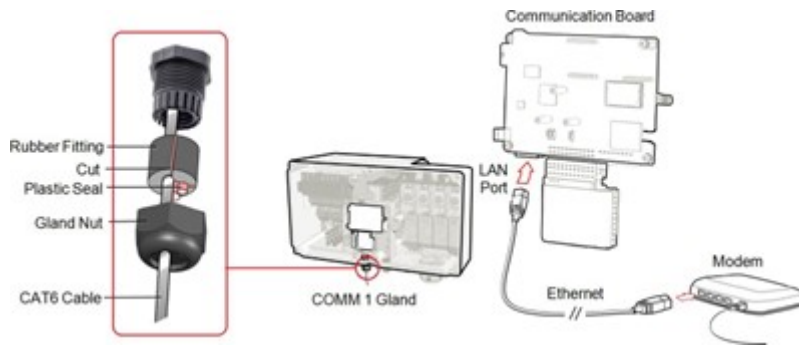

Figure 33: Inserting the Ethernet (CAT6) cable
- Connect the Ethernet connector to the RJ45 port on the communication board as shown in Figure 33.